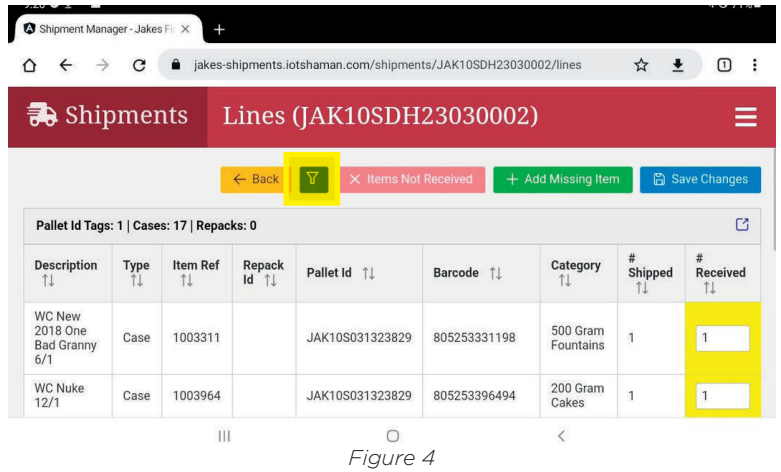

Figure 4
- a. Select FILTER ICON (Figure 4)